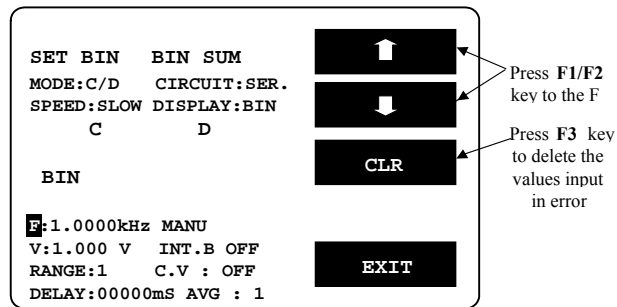

Figure 8-6
- Press  key shown as Figure 8-6 below. For further details, please refer to 4-5-2.